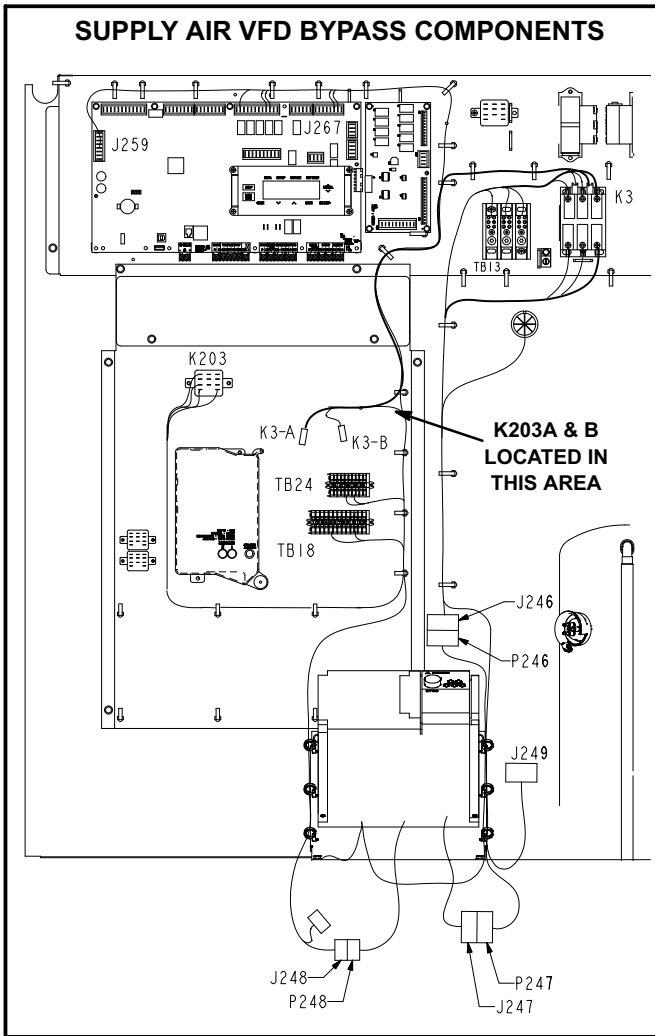

FIGURE 3
2. Locate J/P247 and J/P248 connectors near the VFD. See figure 3.
5. Locate VFD control relay K203 on the lower control panel next to terminal strip TB24. See figure 3.
6. Locate wires labeled K203-A and K203-B in area shown in figure 3. Disconnect insulated terminals.